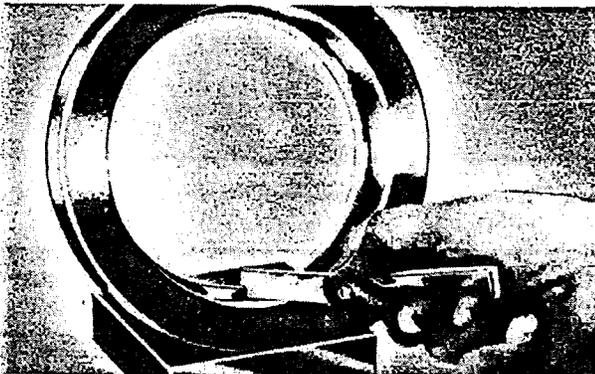

Figure 24 - Checking End Clearance of Piston Ring
**b. Assembly.-** (1) When installing new rings at overhaul, it is important that the side and end clearances be within the Table of Limits.
(2) Check end clearance with Gage (Tool No. T-9000). Refer to Figure 24. Oversize rings should be checked for end clearance using an oversize cylinder barrel.